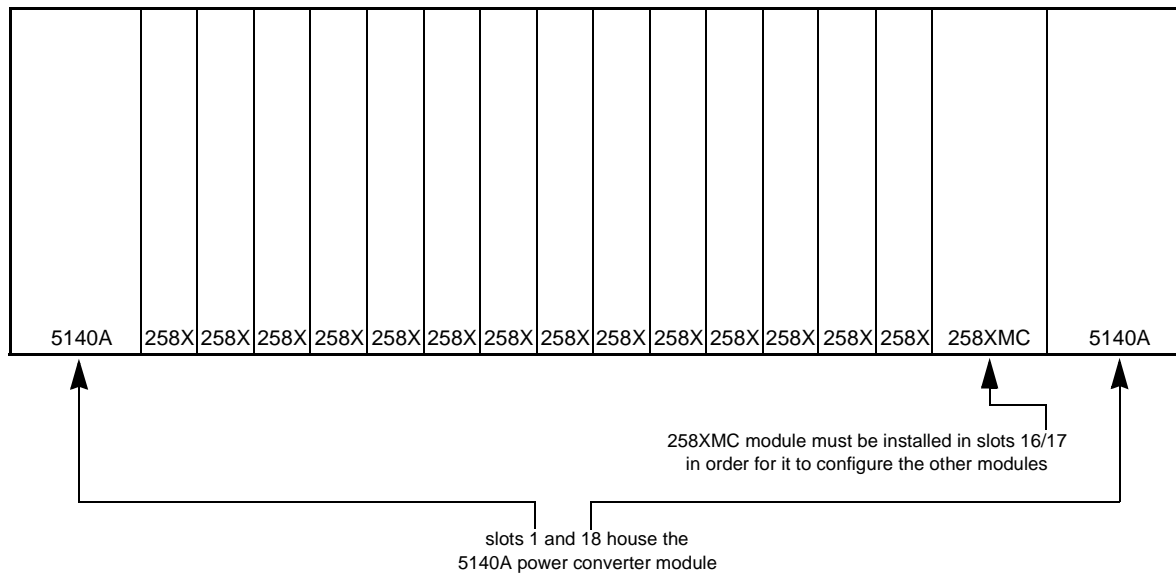

Figure 3-1 258XMC module placement in rear-access mounting assembly
3.3 See Figure 3-1 for a module placement diagram.